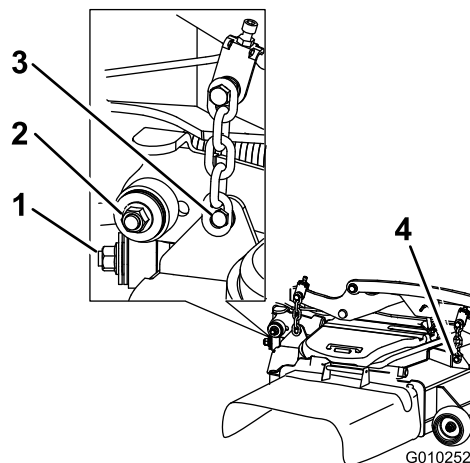

Figure 99
7. Remove and retain the hardware on both sides of the deck as shown in Figure 99.